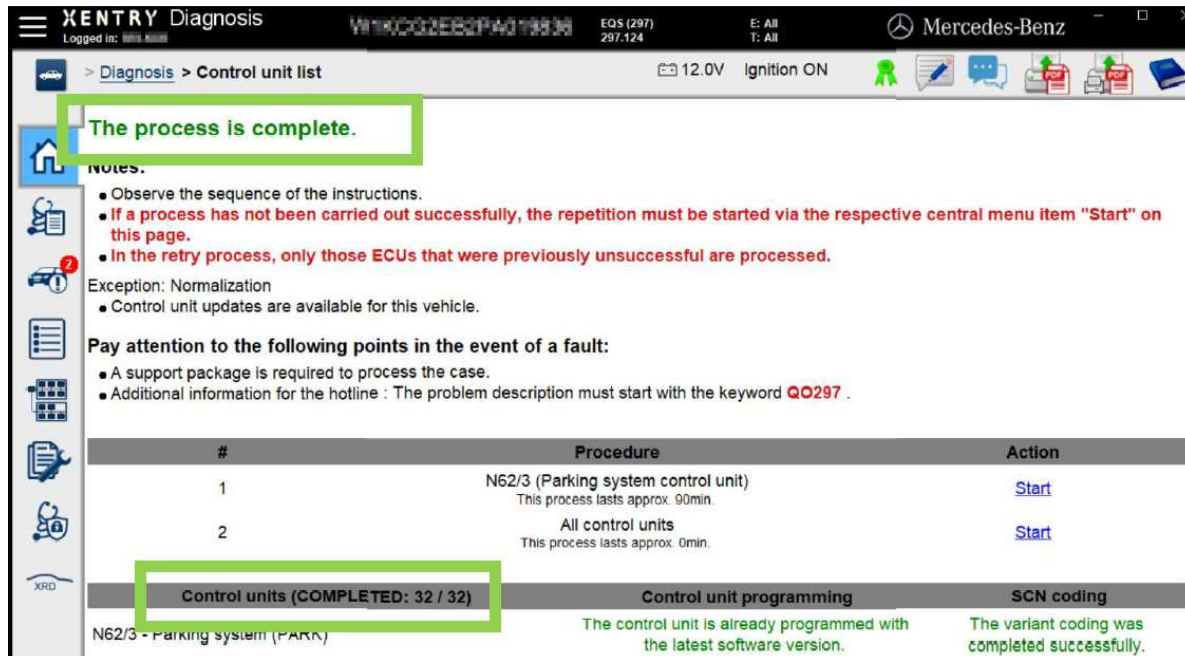

Figure 3
4. Verify all control units are completed (Figure 3), repeat Work Procedure step 2 as needed and document via PXD.